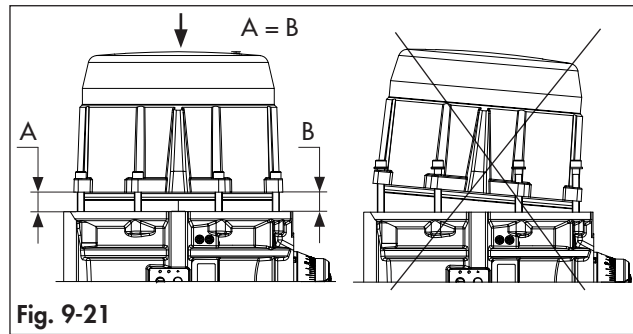

Fig. 9-21
- Assemble the end caps as shown in Fig. 9-21 keeping a constant distance ($A = B$) between the actuator body and the end cap interface.